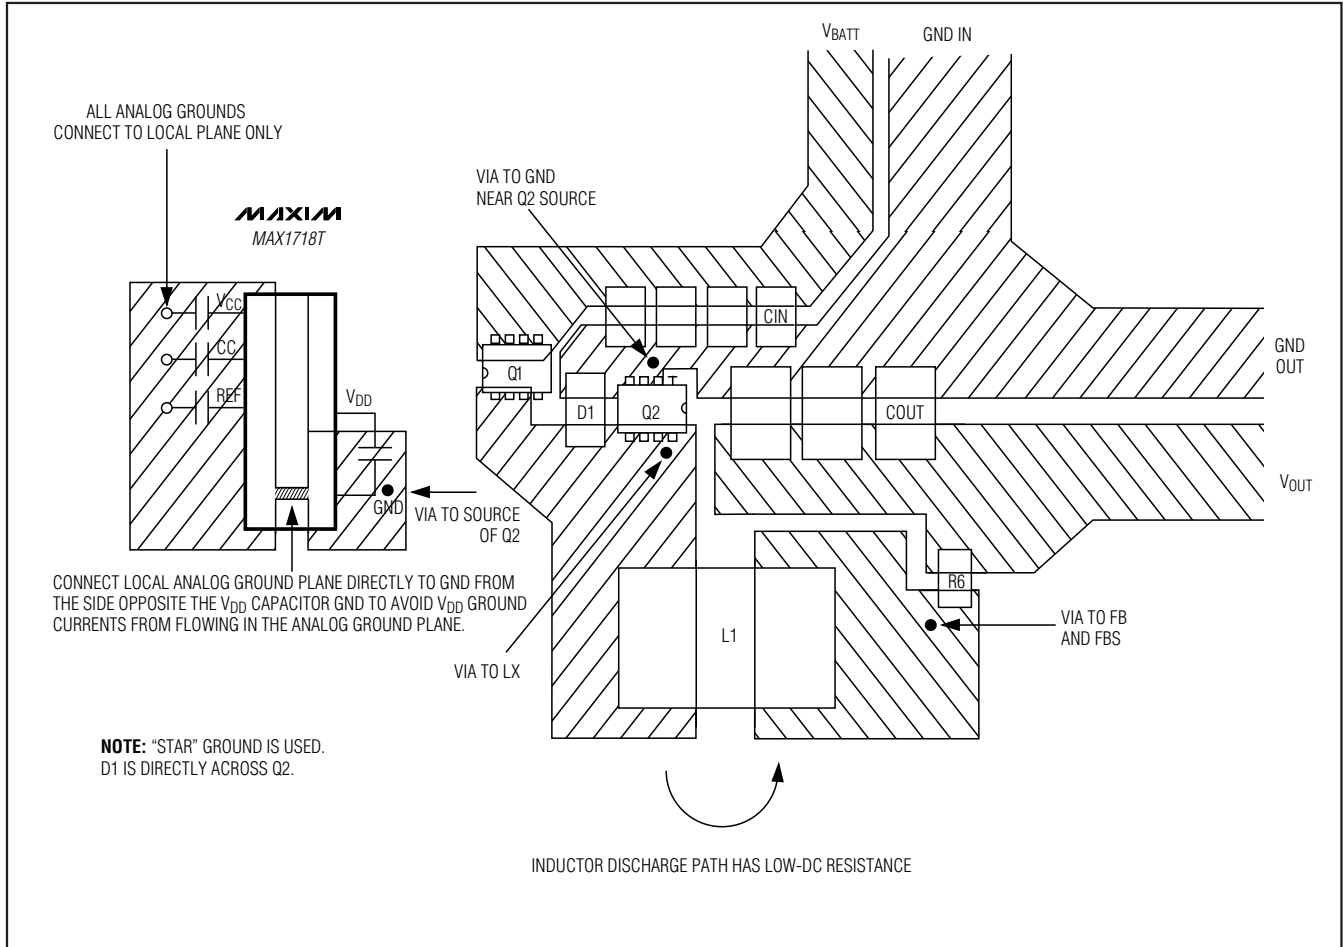

Figure 19. Power-Stage PCB Layout Example
Careful PCB layout is critical to achieve low switching losses and clean, stable operation. The switching power stage requires particular attention (Figure 19). If possible, mount all of the power components on the top side of the board with their ground terminals flush against one another. Follow these guidelines for good PCB layout:
- 4) Make the DC-to-DC controller ground connections as shown in Figure 19. This diagram can be viewed as having three separate ground planes: output ground, where all the high-power components go; the GND plane, where the GND pin and V_{DD} bypass capacitors go; and an analog ground plane where sensitive analog components go. The analog ground plane and GND plane must meet only at a single point directly beneath the IC. These two planes are then connected to the high-power output ground with a short connection from GND to the source of the low-side MOSFET Q2 (the middle of the star ground). This point must also be very close to the output capacitor ground terminal.